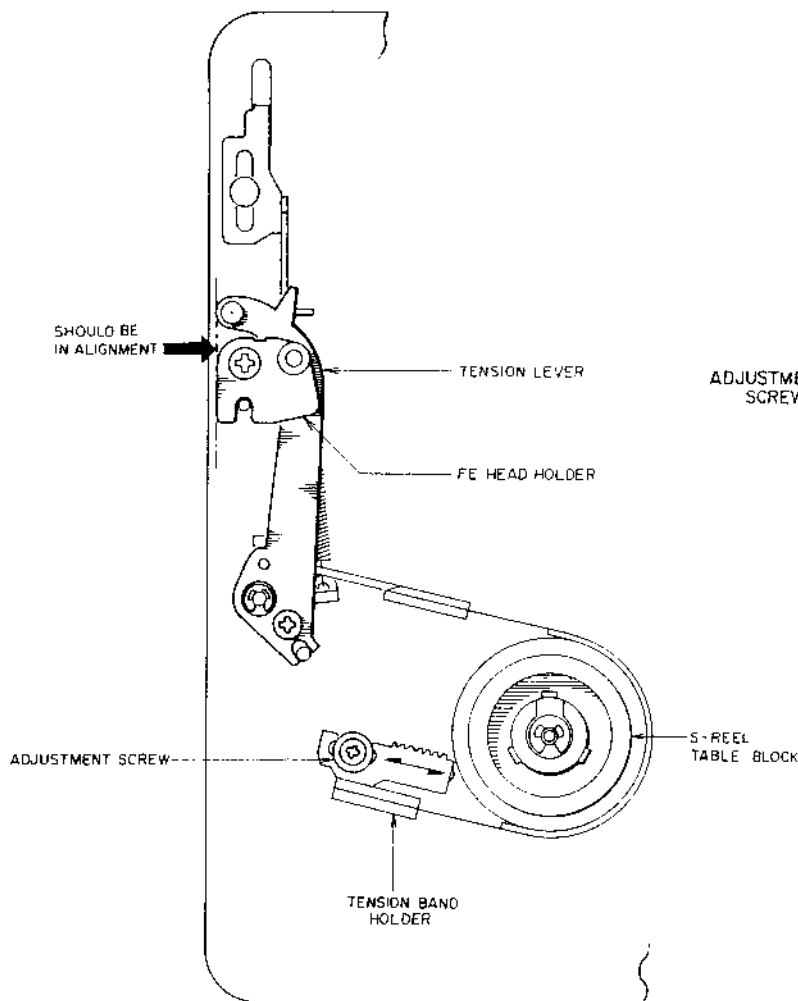

Fig. 5-3
ADJUSTMENT (Refer to Fig. 5-3)**
- 4) Loosen the adjustment screw and adjust the Tension band holder so that the tension lever and Full erase head holder are in alignment as shown in Fig. 5-3, and tighten the adjustment screw.